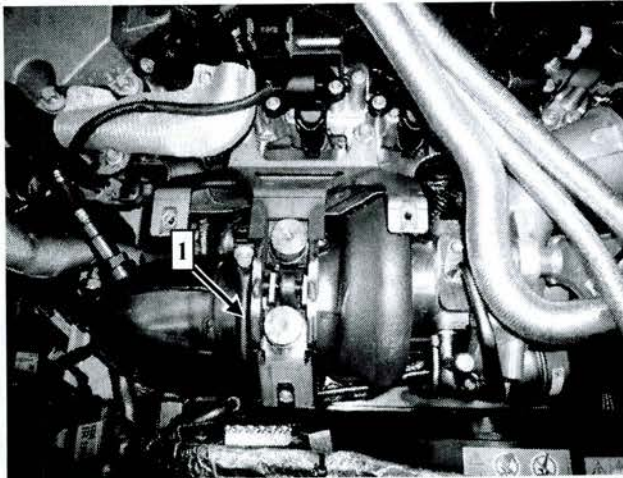

Figure 1
3. Loosen profile clamp (1, Figure 1) and move exhaust pipe to one side.